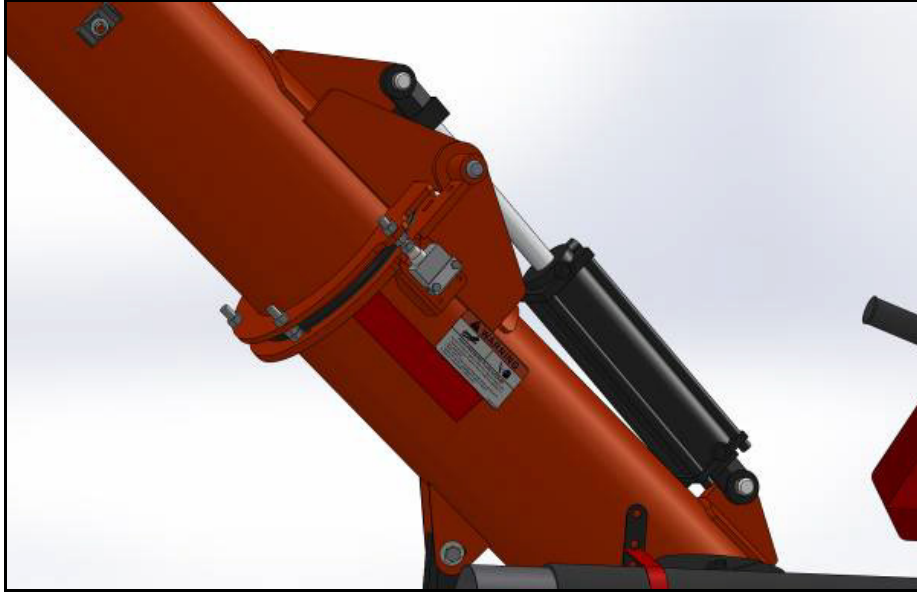

Figure 4.5 Plunger Valve in Working Position (hydraulic hoses not shown)
3. After the augers are fully raised, check to ensure that they are properly seated (see Figure 4.5). The auger ends should be parallel to each other without any gaps. If gap is present, lower the auger fully and inspect for obstruction.